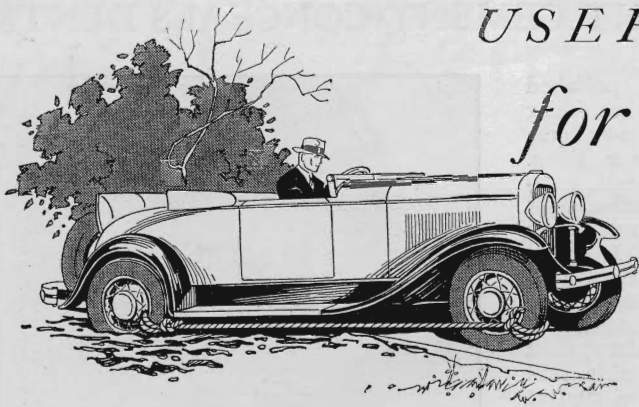

Fig. 1. By tying a rope from the rear wheel to the front one, a kind of four-wheel traction is possible to help a car out of mud when rear wheels sink in
**A** MUDDY road would have to be unusually bad to stall a motor car if it had four-wheel drive. You can take advantage of this fact the next time you get stuck. Figure 1 shows a way to obtain traction with all four wheels. Tie a rope to the front side of the rear wheel in line with the bottom of the running board. Fasten the other end of the rope to the front wheel at approximately the same point. Then if you let in the clutch with care, the front wheel will be pulled around for about a third of a revolution and the car will be pulled forward that far. If both of the rear wheels are mired, both front wheels can be roped in this manner. Of course, care must be used with this method, as the automobile can only be driven a couple of feet with one tying of the ropes.